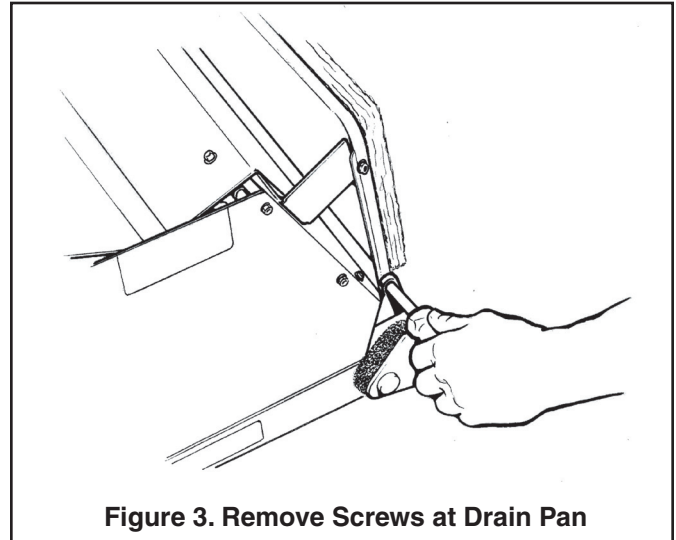

Figure 3. Remove Screws at Drain Pan
- c. Detach the tray by removing the two screws at the drain pan and the two screws holding the two brackets at the top of the coil. See Figures 3 and 4.